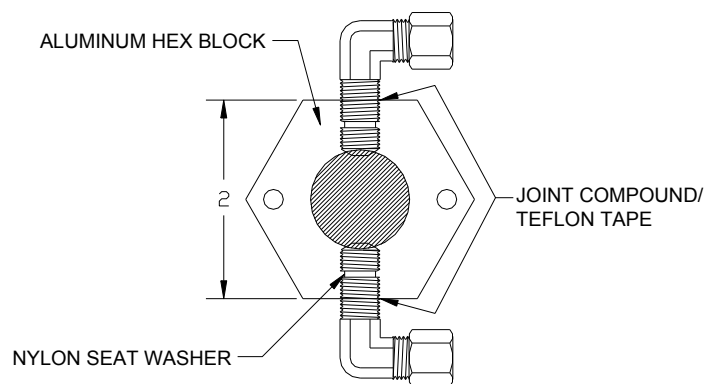

FIGURE 1B
1. Insert nylon seat washer into take-off port (see Figure 1B). Failure to install the washer may result in erroneous signals.